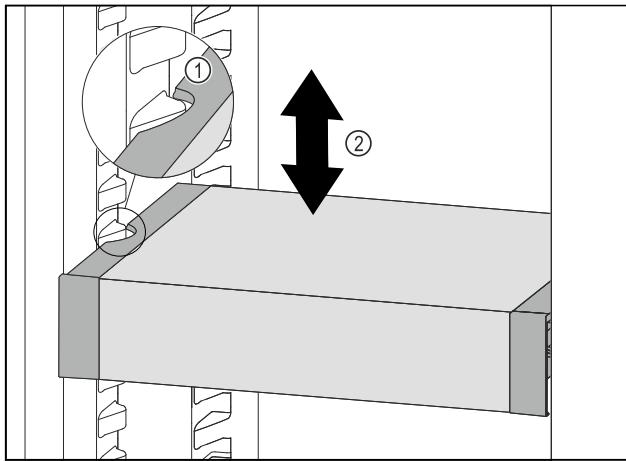

Fig. 131
- ▶ Pull VarioSafe forwards until the recesses in the side of the VarioSafe are at the level of the support rib in the refrigerator compartment. Fig. 131 (1)
- ▶ Move VarioSafe up or down in the refrigerator compartment until the desired height is reached. Fig. 131 (2)